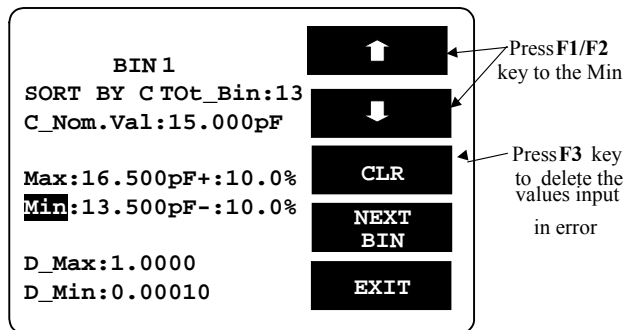

Figure 8-19
- Press  key. Please refer to Figure 8-19 below.